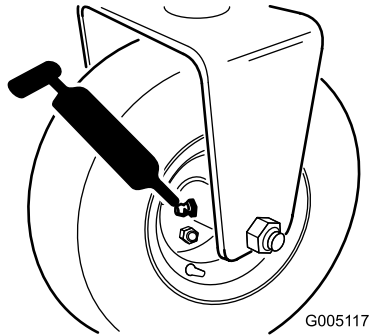

Figure 25
- Rear wheel bearings (1) (Figure 25)